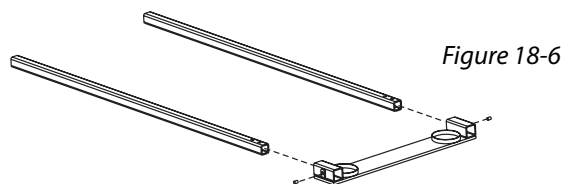

Figure 18-6
6. Install set screws (leave loose) as shown. Slide foot plate assembly onto legs. [Figure 18-6]